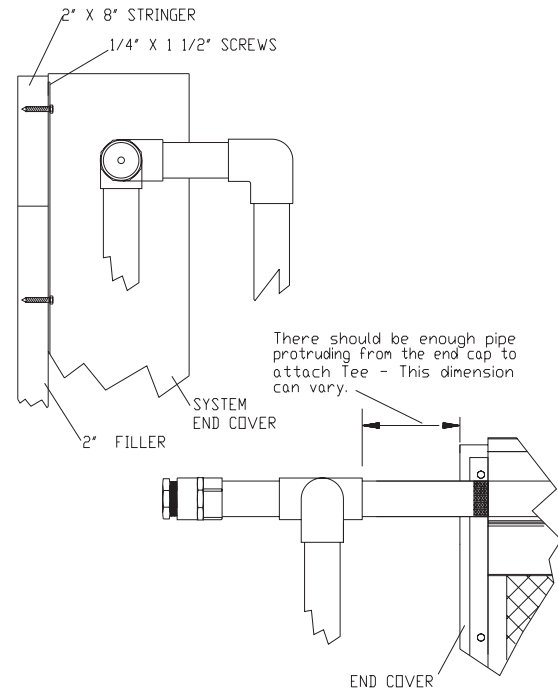

Figure 15
2. Locate the two system end covers as shown in Figure 15. Slip the system end cover over the distribution pipe. Attach the system end cover to the top stringer using the 1/4" x 1 1/2" screws provided.